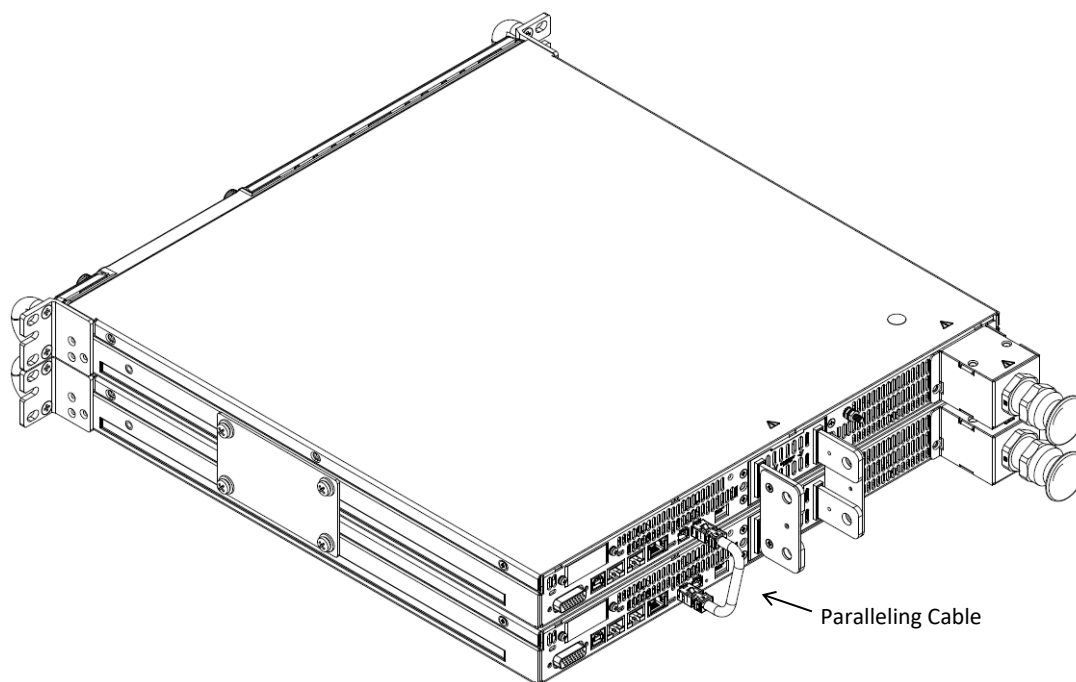

Figure 18: Two 60V-100V Units Paralleling Cable Connection
3. Connect paralleling cable from top unit M connector to bottom unit S connector as illustrated in Figure 18.